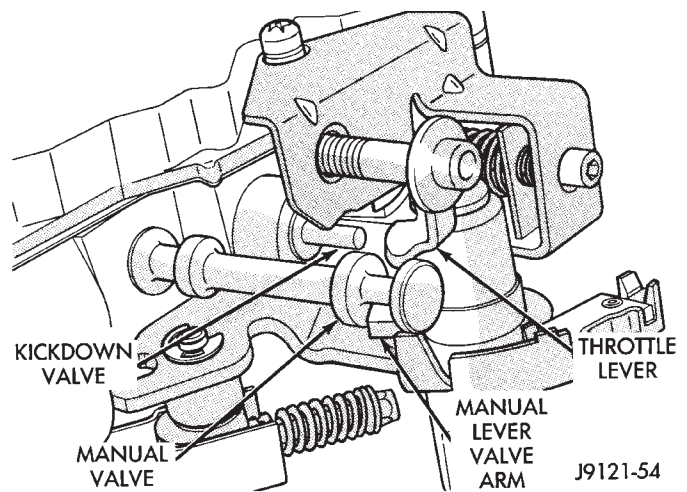

Fig. 136 Manual And Throttle Lever Alignment
- (8) Align manual lever with detent ball and manual valve. Hold throttle lever upward. Then press down on manual lever until fully seated. Remove detent ball retainer tool after lever is seated.
- (9) Then Install manual lever seal, washer and E-clip.
- (10) Lubricate solenoid case connector O-rings and shaft of manual lever with light coat of petroleum jelly.
- (11) Verify that throttle lever is aligned with end of kickdown valve stem and that manual lever arm is engaged in manual valve (Fig. 136).
- (12) Install boost valve, valve spring, retainer and cover plate. Tighten cover plate screws to 4 N•m (35 in. lbs.) torque.
- (13) Obtain new fluid filter for valve body but do not install filter at this time.
- (14) If line pressure and/or throttle pressure adjustment screw settings were not disturbed, continue with overhaul or reassembly. However, if adjustment screw settings were moved or changed, readjust as described in Valve Body Control Pressure Adjustment procedure.